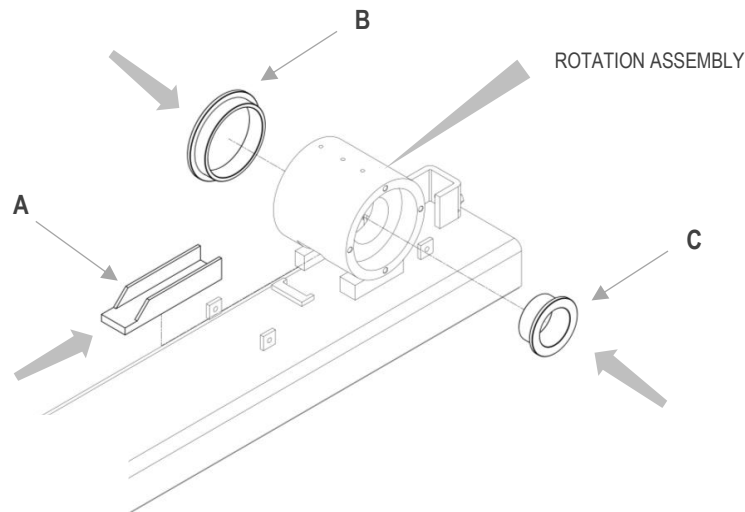

Figure 19
3. Check that the bushes **A**, **B** and **C** (see Figure 19) are correctly housed.